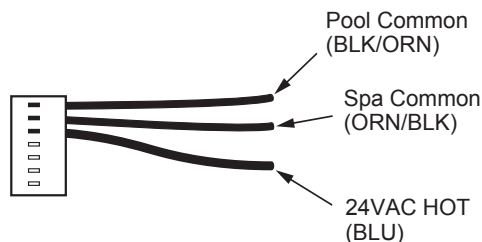

Figure 47. 7-Pin Remote Interface Harness
5. On the "Remote Interface Harness", connect the BLUE wire to one side of the "REMOTE" switch and connect the other side to either the ORANGE/BLACK wire for "SPA" operation or the BLACK/ORANGE wire for "POOL" operation. See **Figure 47**.
4. On the "Remote Interface Harness" connect the BLUE wire to one side of the "REMOTE" switch and connect the ORANGE/BLACK wire for "SPA" operation and the BLACK/ORANGE wire for the "POOL" operation. See **Figure 47**.